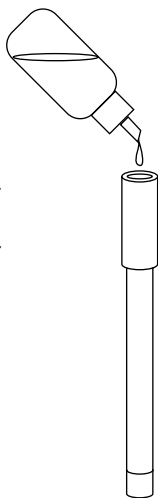

Fig. 11
11. Fill the outer body with about 2.5 mL or 50 drops of electrode filling solution. See **Figure 11**.